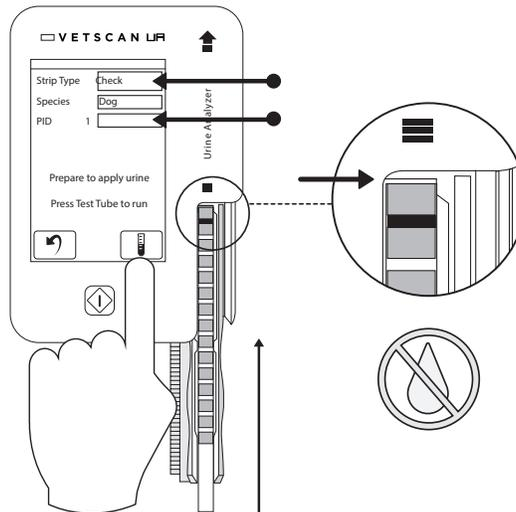

Fig. 21 Starting a Check Strip test
- With the UA analyzer powered on, select Check for **Strip Type** and enter “0” for **Patient ID (PID)** on the Home screen. (Fig. 21). The **Species** field will be ignored when the **Strip Type** is Check. Press the **Test** button and place Check Strip onto Strip Tray, aligning end of the Check Strip with the edge of the upper cover of the UA analyzer (see arrow, Fig. 21). DO NOT wet the Check Strip. The analyzer will run the Check Strip.